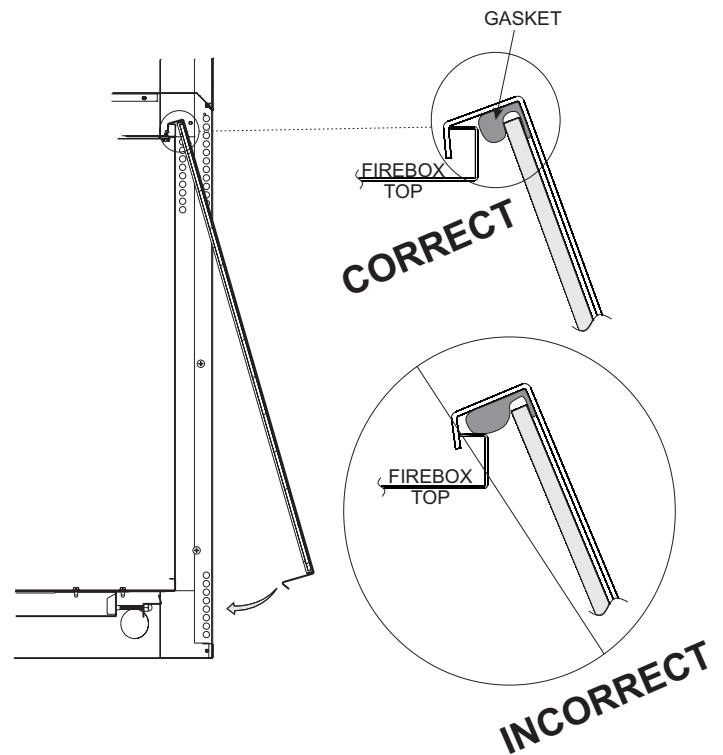

Figure 6
7. Reinstall glass front by hanging top of frame on top of the firebox, making sure gasket at top is positioned in front of firebox flange and not on top. **See Figure 6.**
1. When installing the Glass Door assembly, make sure that the door top flange is hooked over the firebox top flange as illustrated in the "Correct" view in Figure 6.
**Important: Do not allow the gasket across the top of the door to roll up on top of the firebox flange as shown in "Incorrect" view in Figure 6.**